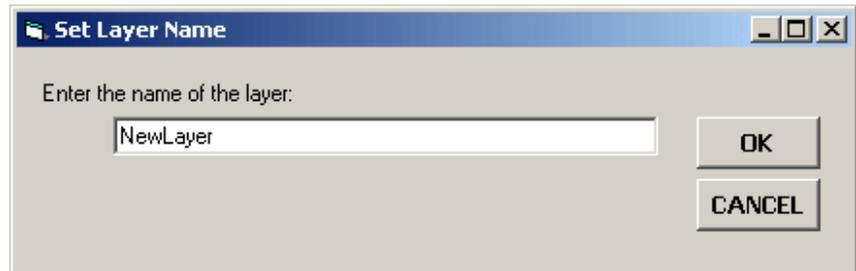

Figure 23
- Enter the appropriate name for the new layer to be created, see Figure 23, then click the OK button.